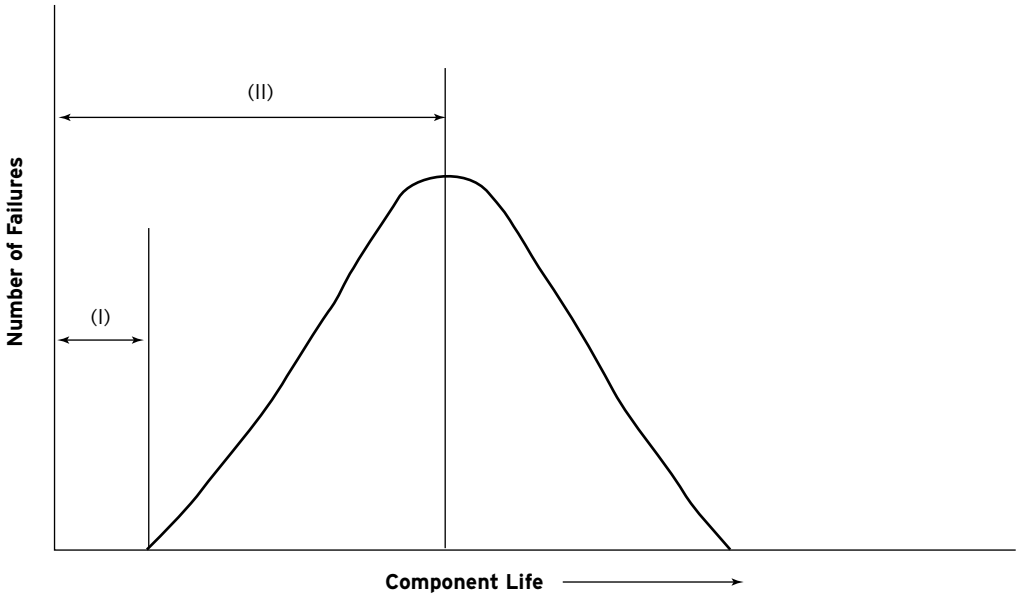

Figure 2-5. Parts with a wide range of life expectancy cannot have a good replacement interval
If the life of a component is not predictable, specifying a maintenance interval is quite difficult. Choosing service interval (I) as shown in Figure 2-5 would mean replacing most parts long before they were worn, increasing machine downtime for high-frequency maintenance activities and consuming additional technician resources.